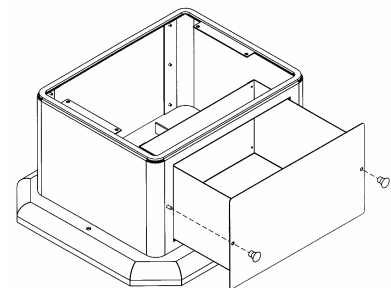

FIGURE 24
- f. Periodically remove and empty ash bin (see Figure 24) by unscrewing the two knobs on the front of the pedestal below the ash lip. Dispose of ashes properly. (See “**ASH REMOVAL**” above)